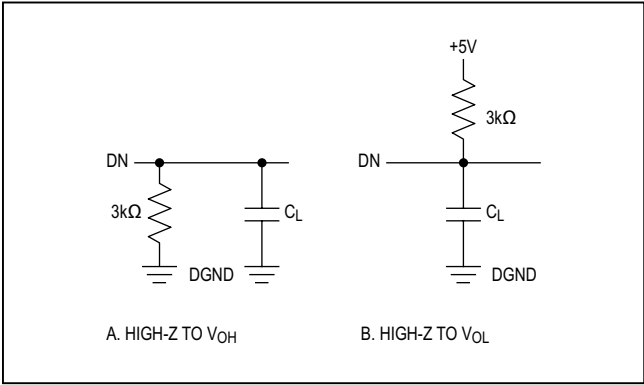

Figure 1. Load Circuits for Data-Access Time Test
**Note 2:** See Figure 1 for load circuit. Parameter defined as the time required for the output to cross +0.8V or +2.4V.